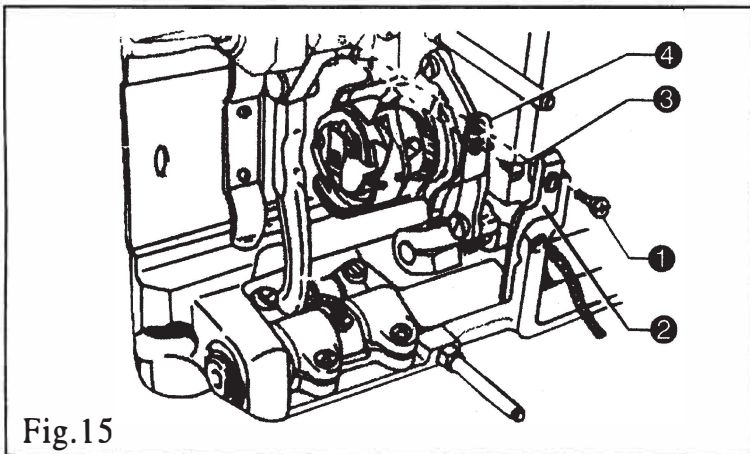
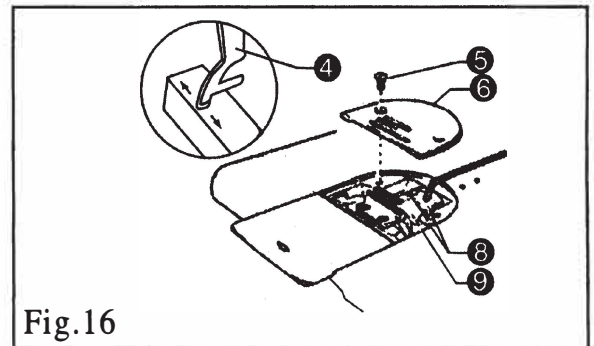
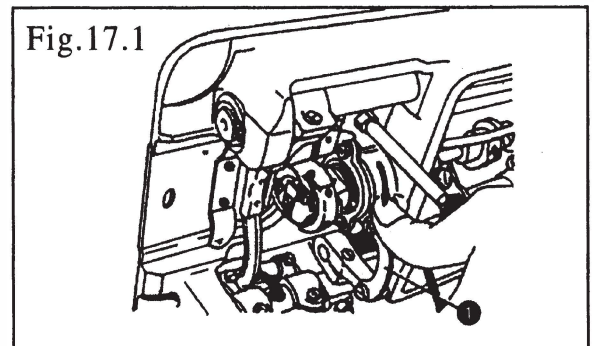

Fig.15
Fig.16
Fig.17.1
## 13.1 REPLACE THE COUNTER KNIFE AND MOVING KNIFE(FIG15,FIG16,FIG17.1)
- 2). Take down the screw ① and positioning finger ②
- 3). take down the screw ③ and counter knife ④ (Fig.16)